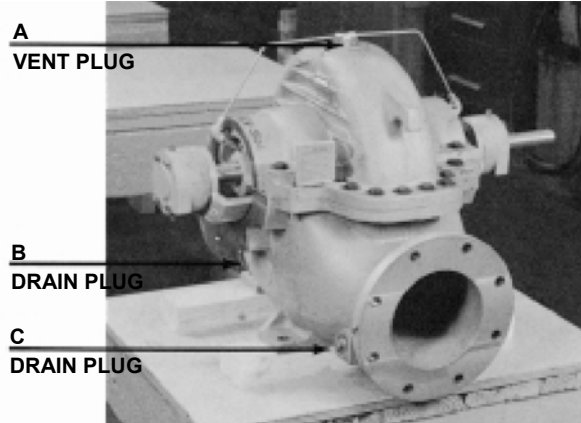

FIGURE 40 – PUMP WITH MECHANICAL SEALS ON SHAFT SLEEVES
1. Drain the pump by opening vent plug (A, Figure 40) and remove drain plugs (B and C) on the suction and discharge nozzles.